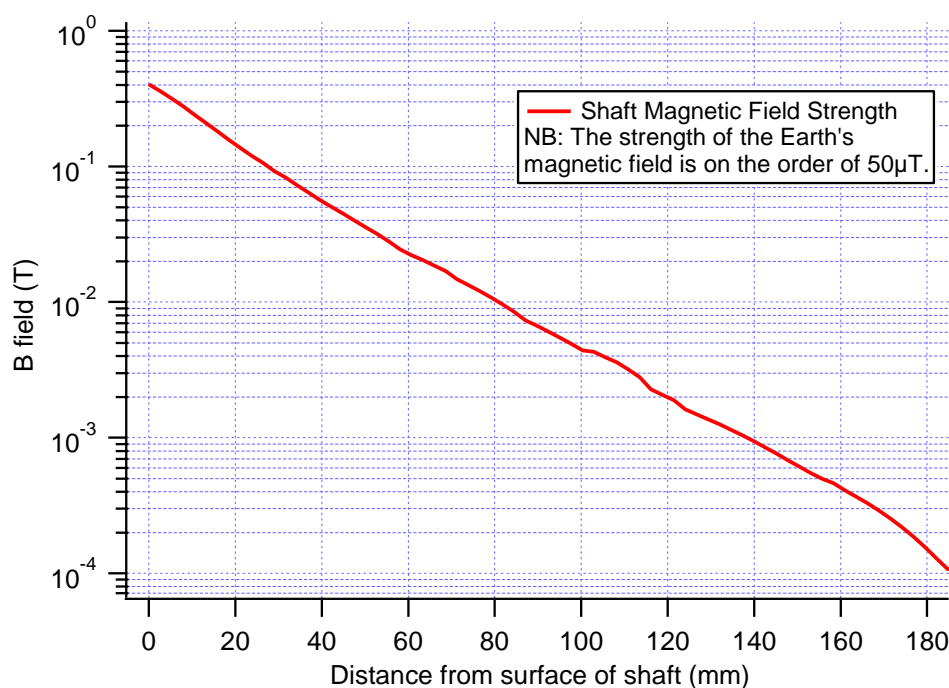

Figure 4-1 – Shaft magnetic field strength with distance
4. When using a magnetic position sensor ensure that it is located far enough from the shaft that the magnetic field is within the working limits of the sensor. The shaft field strength as a function of distance from the shaft is shown in Figure 4-1.